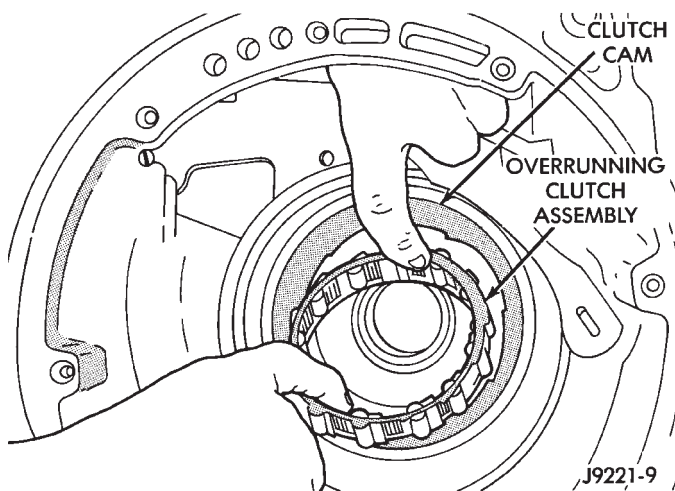

Fig. 32 Removing/Installing Overrunning Clutch—46RH
(33) Remove overrunning clutch assembly (Fig. 32). Assembly can be removed without displacing rollers and springs if care is exercised. Note position of rollers and springs for assembly reference.